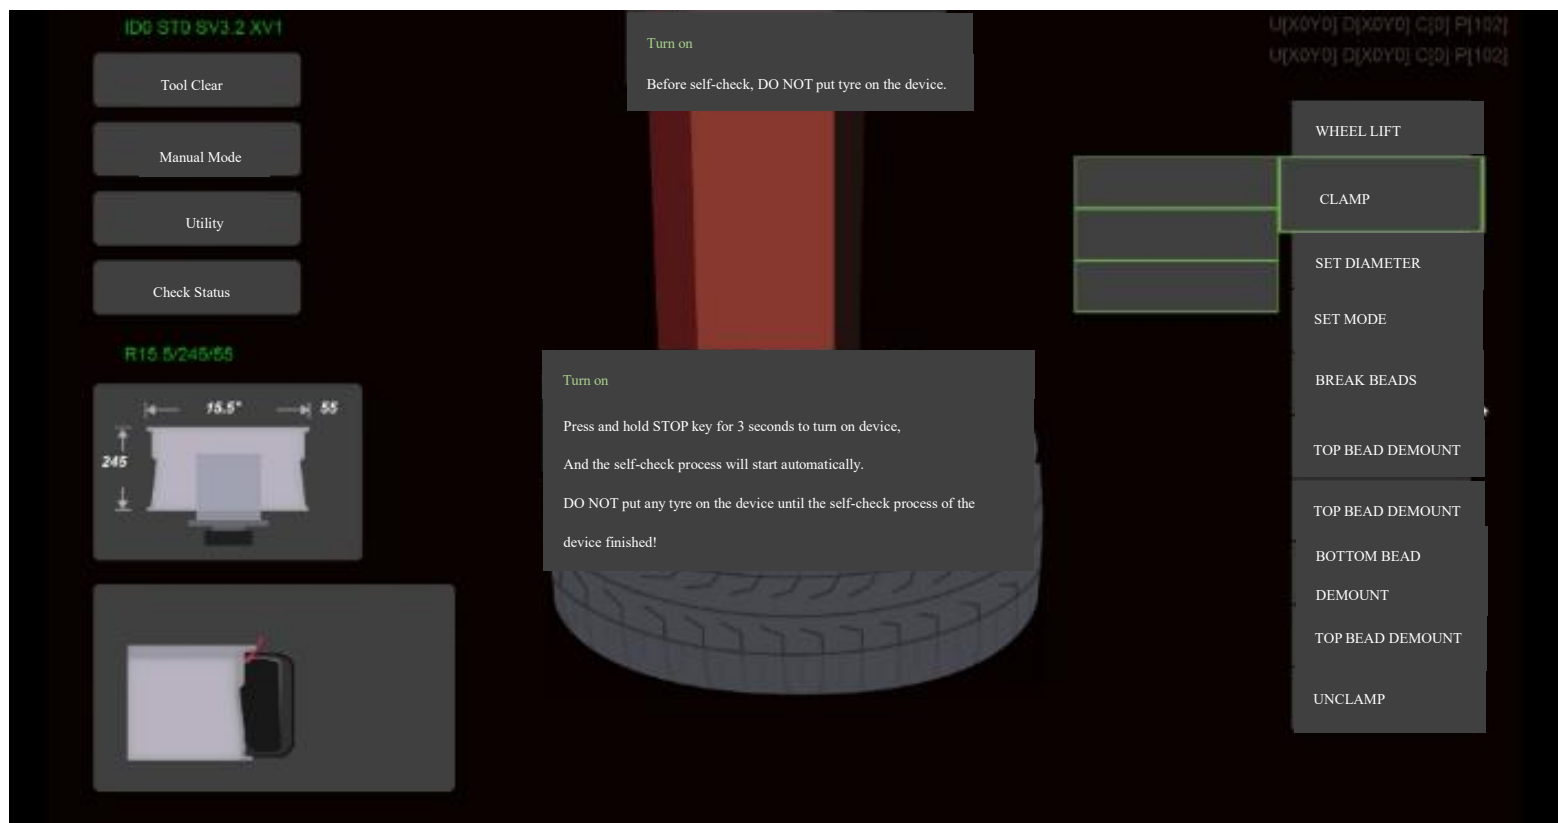

Figure 15
**Warning:** After the tyre changer is turned on, the self-test procedure should be executed first (as shown in Figure 15). During the self-test, the automatic tyre change procedure to complete the self-test and show that everything can be used. If the error reporting information is displayed, please contact the technical personnel of the manufacturer.